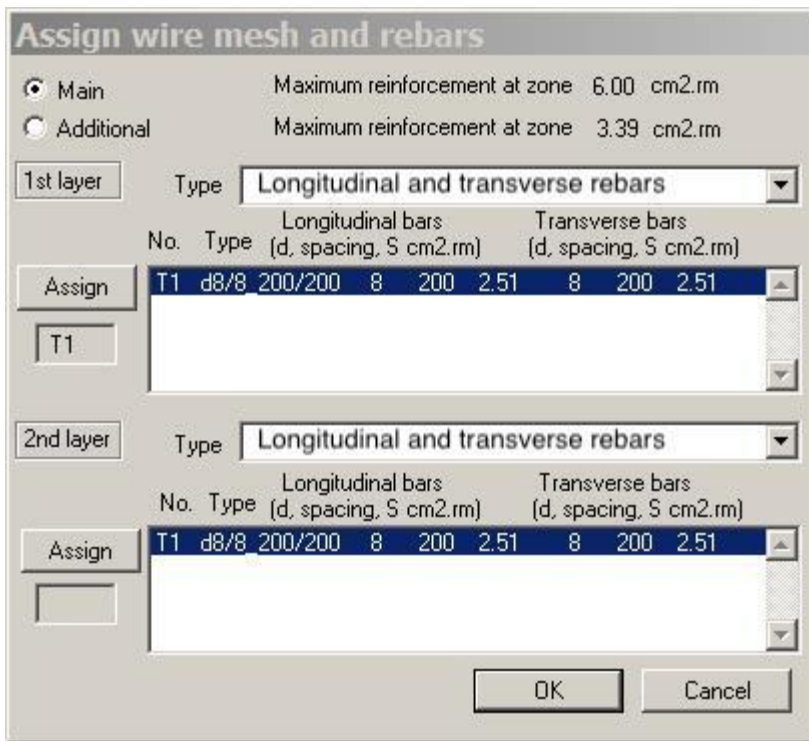

Figure 2.7.4 Assign wire mesh and rebars dialog box
- ⇒ In the **Assign wire mesh and rebars** dialog box (see Fig.2.7.4), do the following: